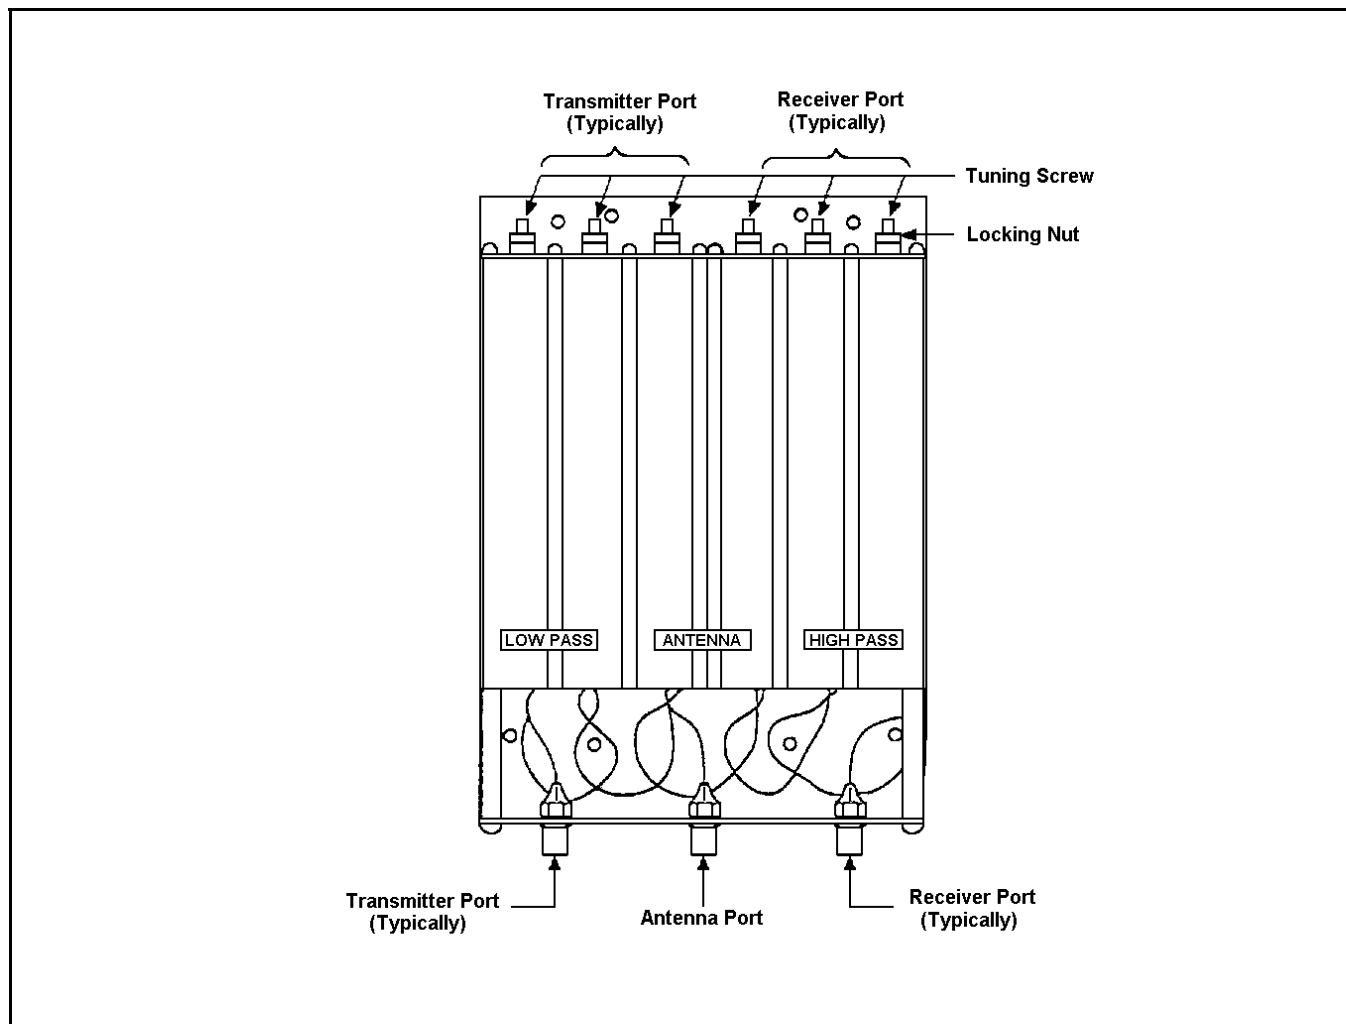

Figure 13 - Duplexer Connections and Tuning Adjustments
2. Remove the eight (8) black Phillips head screws that fasten the cover wrap to the chassis and slide the cover wrap off towards the rest of the unit.
6. Unloosen the tuning screw shaft locking nuts (Figure 13) on all six (6) tuning screws.